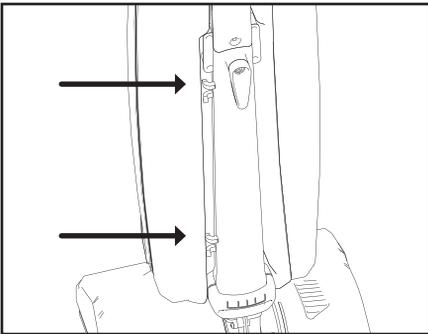

Fig. 1
- Thread the cord through the lower and upper cord guides on the back of the vacuum bag (Fig. 1).